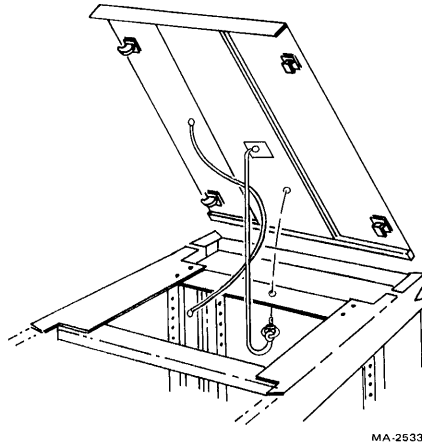

Figure 2-10 Top Cover Fastener
9. Locate the fastener attached to the underside of the master transport top cover (Figure 2-10). Release the top cover by turning the fastener one-quarter turn in a counter-clockwise direction. When it is released, the fastener hangs by a wire from the top cover. Pull the top cover forward approximately 1.27 cm (0.5 in) and lift off. Rest the cover on top of the cabinet leaving the ground wire connected.